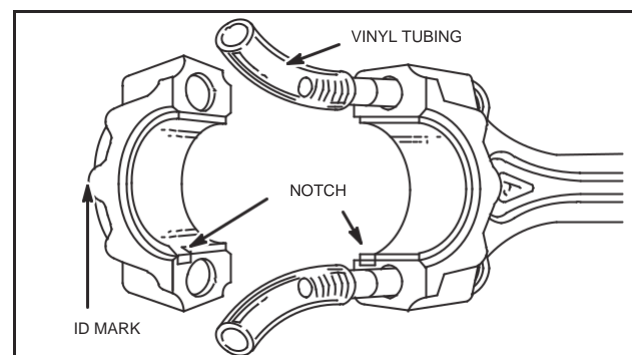

Fig. 5 – Installing Connecting Rod Bearings
1. Install connecting rod bearings, Fig. 5. Be sure tang on bearing is seated in notch in connecting rod and cap.